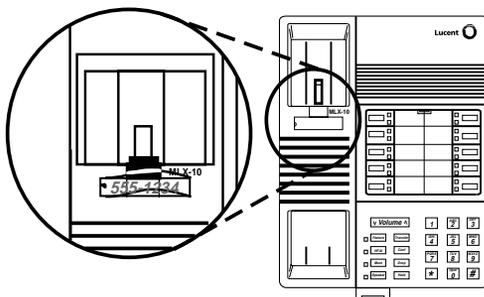

Figure 3-36. Replacing the Extension Label
- a. Insert one end into the slot and snap the other end into place. See Figure 3-36.